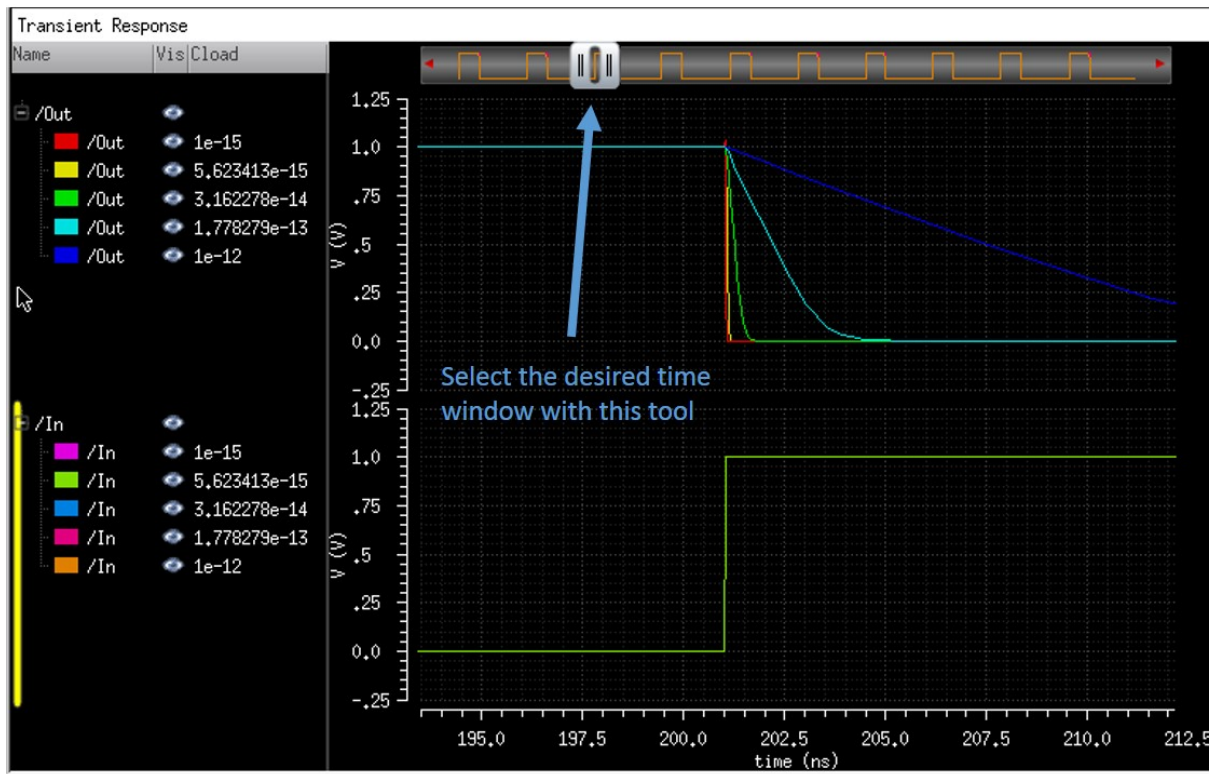

Figure 27 Select desired time window
1. For the transient simulation, you can zoom in on a particular transition by shrinking the time window to the desired time step as in Figure 27